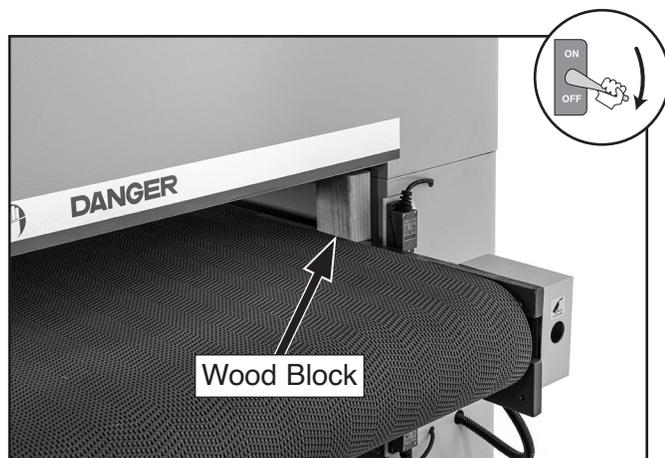

Figure 91. Example of wood block placed for checking table parallelism.
5. Place wood block on edge of table at rear left corner, then raise table until wood block just touches upper frame (see **Figure 91**). Do not allow table to squeeze or compress wood block.